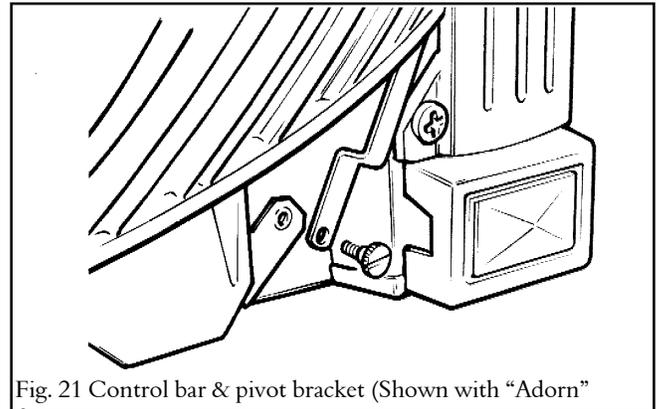

Fig. 21 Control bar & pivot bracket (Shown with “Adorn”
**12.4** Align the hole near the bottom of the control linking bar with that in the control pivot bracket. Join them with the knurled shouldered screw (See figure 21). Make sure that the gas control valve is closed. Slide the control knob fully from top to bottom and back to make sure that the slide and pivot mechanisms move smoothly. Note that some resistance should be felt when the slide knob reaches the “burner fully on” position.